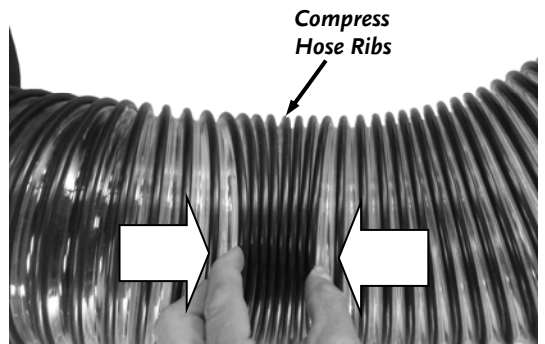

Figure 54
- a. Compress the Hose Ribs together as much as you can without stretching the Hose too much (**Figure 54**). If more than 6 Ribs can be easily compressed, the Hose should be shortened.